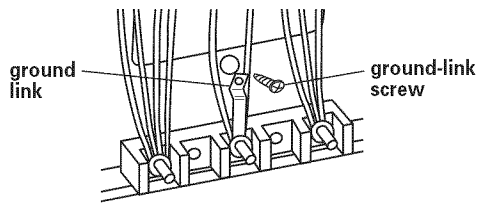

Figure 7
8. Remove the ground-link screw from the range frame. Save the ground-link screw. Bend up the ground link so that it does not contact the range. See Figure 7.